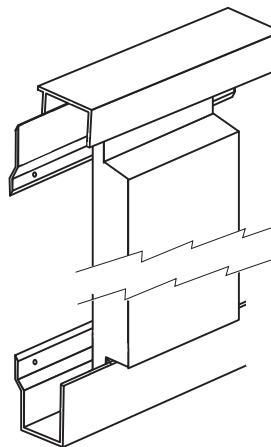

Figure 3
- ⑤ Slide each panel section into the bottom channel completely. Make sure the pads butt up against one another.
- ⑥ Slip the "J" channel over the pads (see Fig. 3) and secure it down in the "Z" channel.